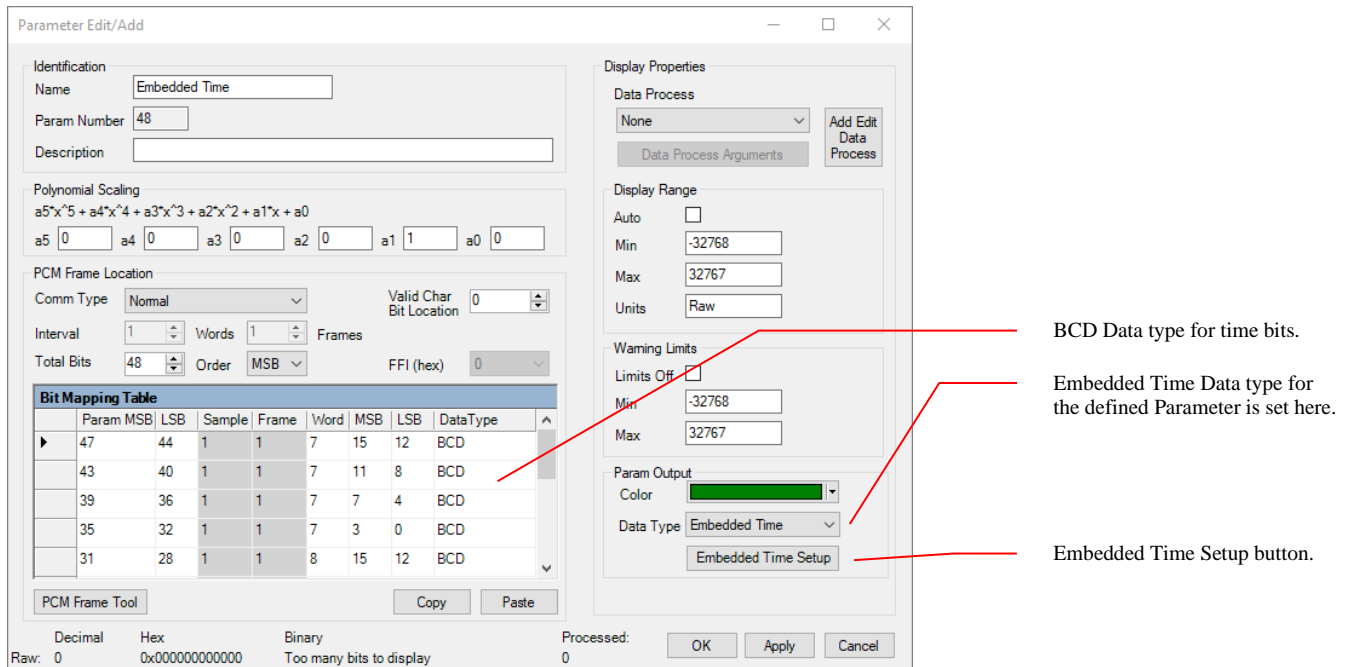

Figure 151 – Embedded Time Parameter
- Set the Data Type Field to **Embedded Time**. The Embedded Time Setup button will appear as shown below. (See Figure 151 – Embedded Time Parameter below.)